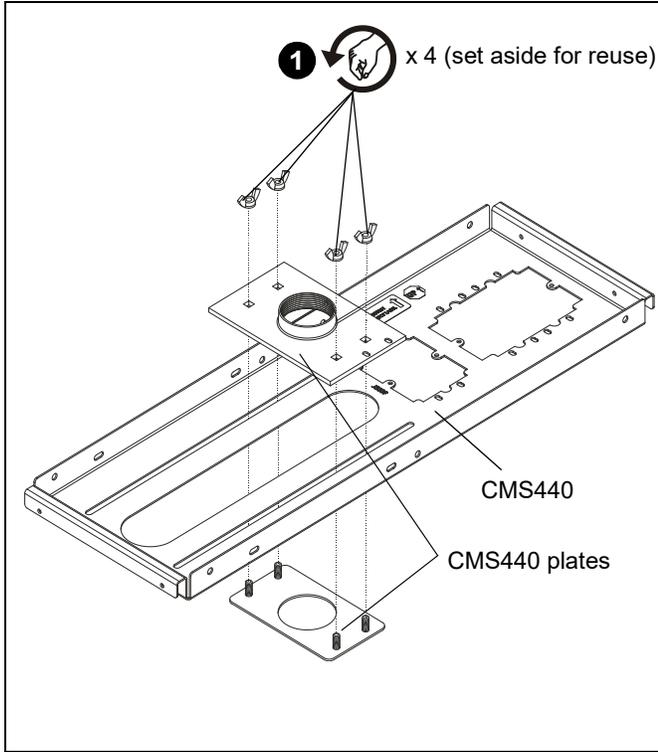

Figure 1
1. Disassemble CMS440 plates by removing four wingnuts from lower plate assembly. Set wingnuts aside for reuse. (See Figure 1)